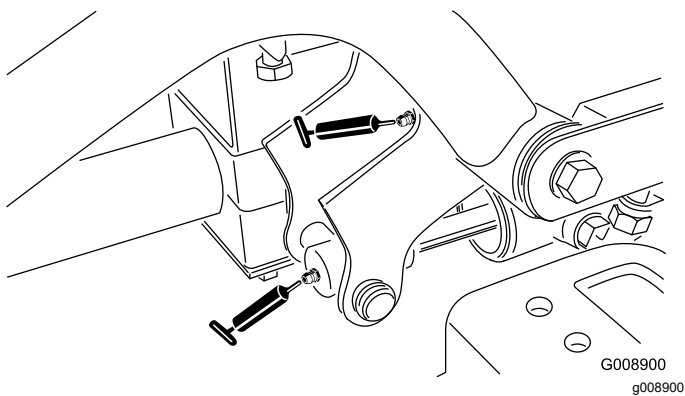

Figure 38
- 2 right, front lift-arm pivots and lift cylinder (Figure 38)